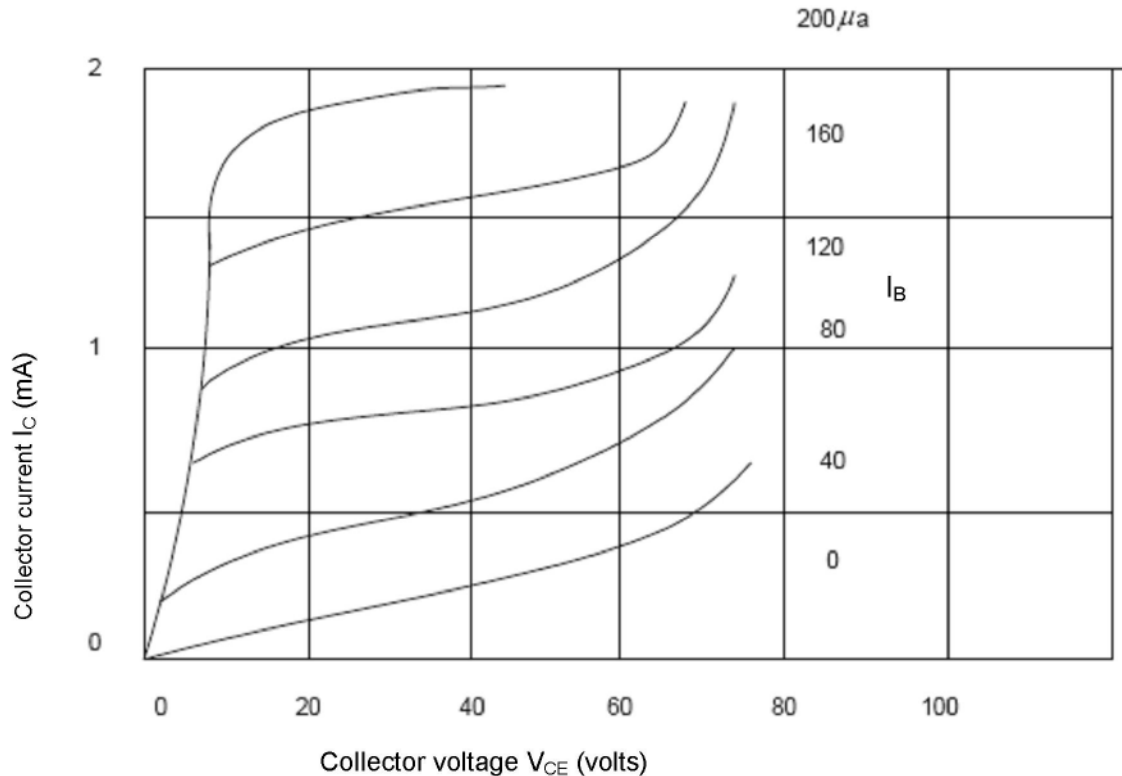

Figure 5.6: Output characteristics at high collector voltages
- Set V_{max} to the highest scale, $P_{max} = 0.4W$, and $I_{max} = 2mA$. Copy this characteristic and obtain the collector breakdown voltage with the base injecting current. It may not be possible to see the breakdown voltage, depending on the maximum voltage scale capable of the curve tracer. Typical output characteristics are shown below in Figure 5.6.